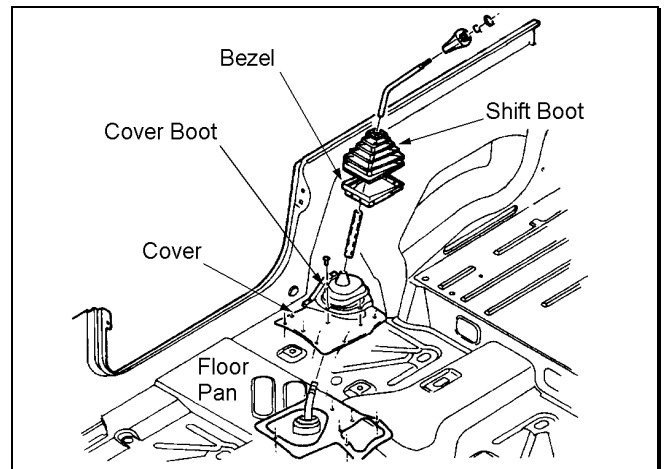

Figure 15
2. Pry up the shift boot and bezel from the floor console. See figure 15.